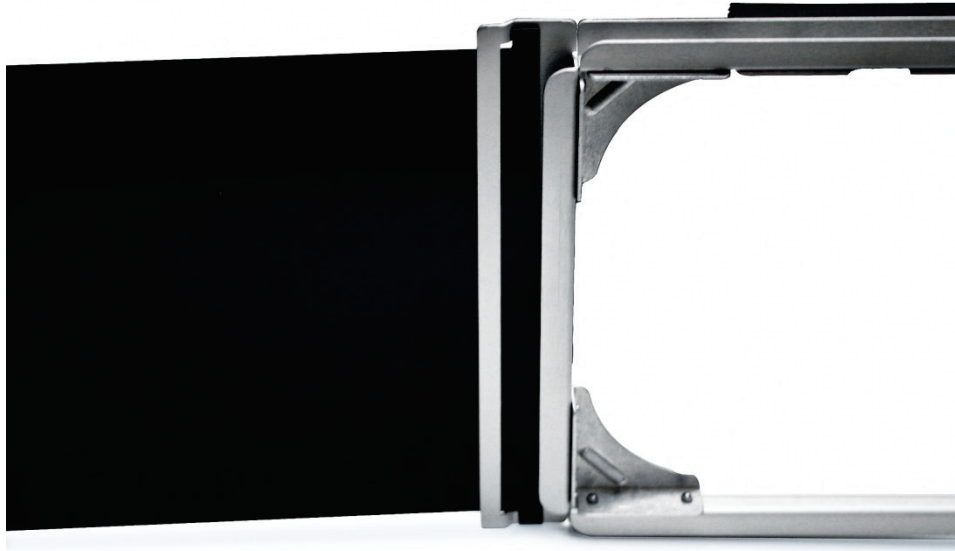

Figure 26: Attach Fabric Hood and Hood Support Poles to Frame and Base Assembly
3. Insert the flaps into the slots from the side of the frame where the fabric hood is attached to the U-channel of the frame (see Figure 26). Use the different flap lengths to fit various cabinet widths.